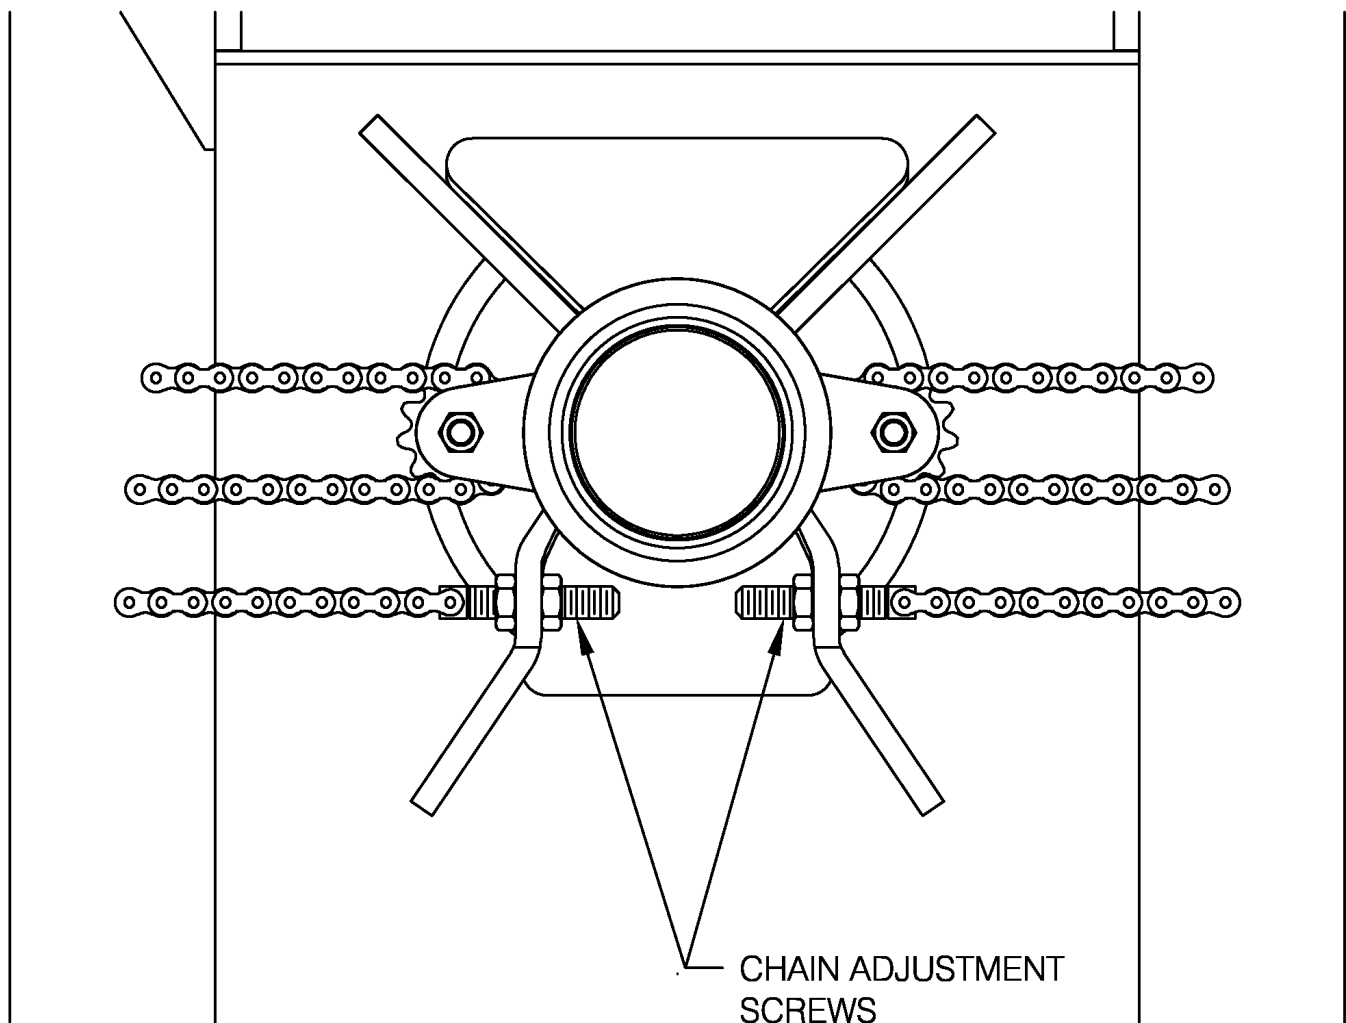

Figure 7-3
To adjust the tension on the sideshift drive chain, refer to Figure 7-3 and the following procedures:
3. Loosen the jam nuts on each of the two chain adjustment screws located at the rear of the carriage, near the center pivot. (Refer to Figure 7-3)